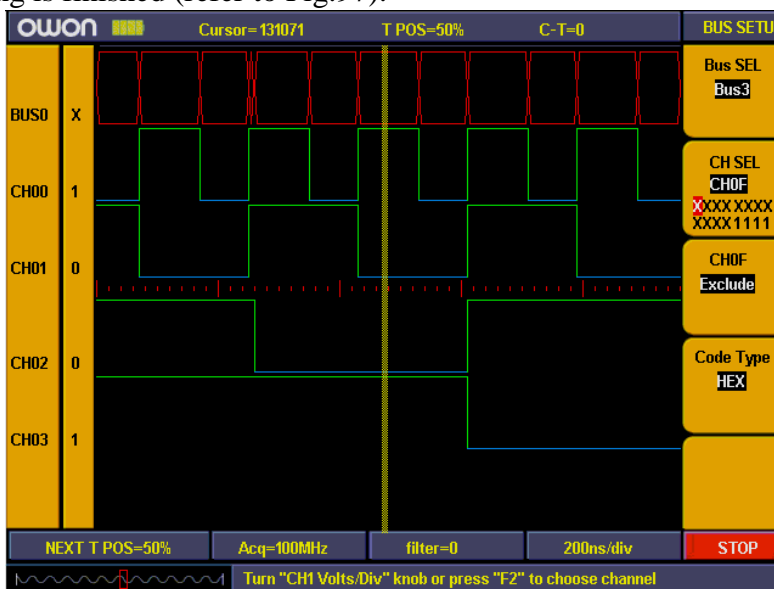

Fig. 97: Bus setting
- BUS setting is finished (refer to Fig.97).